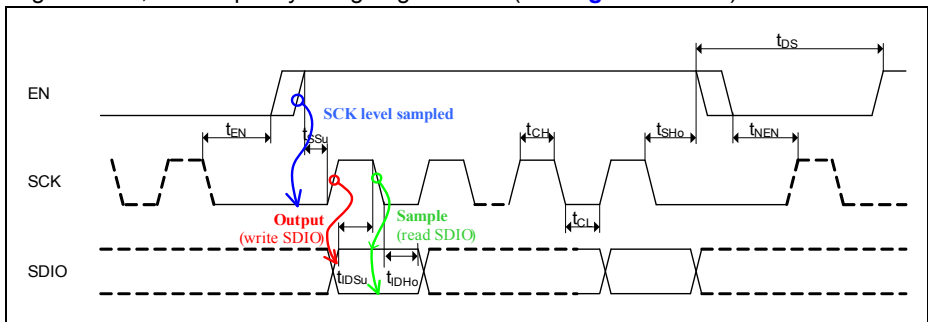
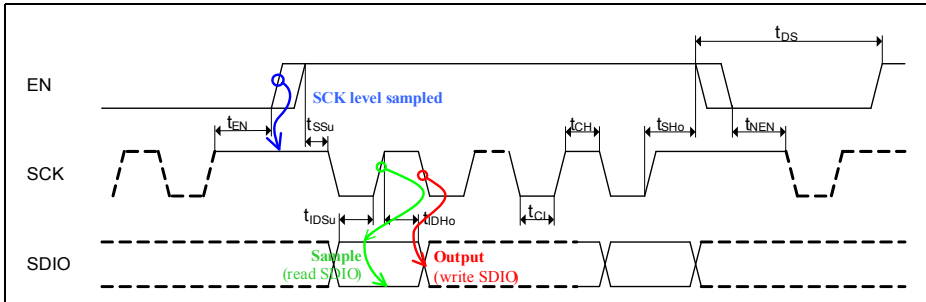

Figure 6 SPI Timing — SCK low at rising edge of EN
Figure 7 SPI Timing — SCK high at rising edge of EN
- **EN** - **enable input** with embedded pull-down resistor. High level on EN input enables the SPI transmission. The rising edge of the EN signal triggers the selection of the active SCK edge (for the consequent data transfer, until the EN line goes again in low state) and transmission/ sampling of data between the device and the microcontroller can start. For details refer to Figure 6 and Figure 7.
- **SCK** - clock input pin with embedded pull-down resistor. If SCK is at low level while EN goes high, the incoming SDIO data is sampled by falling edge of the SCK and the output SDIO data is set by the rising edge of SCK. Contrariwise, If SCK is at high level when EN goes high, the SDIO data is sampled with the rising edge of the SCK clock and output on SDIO by falling edge of the SCK clock. For details refer to Figure 6 and Figure 7.
If SCK is low at that moment, the incoming SDIO data will be sampled with the falling edge of SCK, and output by rising edge of SCK (see Figure 6 below).
If SCK is high during occurrence of rising edge on EN, incoming SDIO data is sampled with the rising edge on SCK, and output by falling edge of SCK, as illustrated in Figure 7.